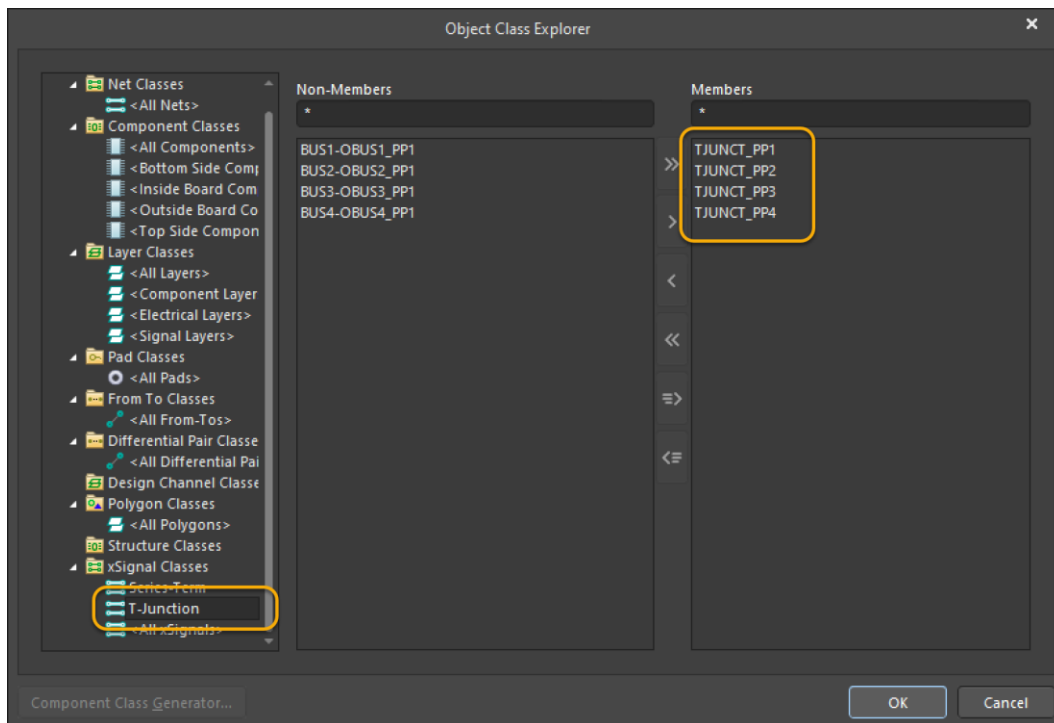

Figure 17. New xSignal class for the T-Junction net
39. Using Figure 17 as a reference: